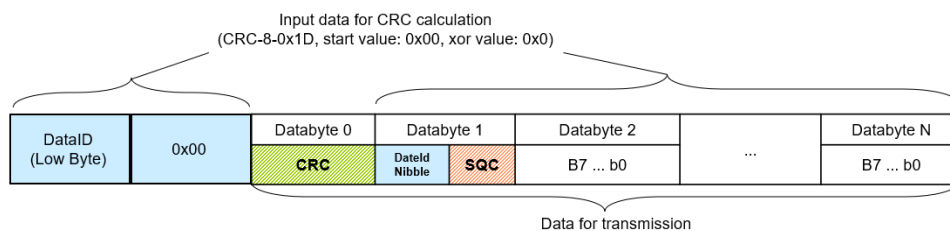

Figure 3.4. Layout of the protected message including control data (CRC, SEQ) with explicit transmission of data ID nibble (`dataIdMode=3`)
- ▶ **Explicit transmission of data ID nibble** (`dataIdMode=3`): Both bytes of the 16-bit data ID are attached to the safety data for CRC calculation, but the low nibble of the high byte of the data ID is explicitly transmitted. Only 12 bits are used in this 16-bit data ID and the high nibble of the high byte is set to 0. The bit-offset of the data ID nibble value within a transmitted signal group is configurable, but must be aligned with respect to nibbles. To be able to use this data ID inclusion mode together with the data ID inclusion mode **Both bytes**, the CRC is calculated over the low byte of the data ID and the high byte which is set to 0. For more information on explicit transmission of data ID nibbles, see [Figure 3.4, “Layout of the protected message including control data \(CRC, SEQ\) with explicit transmission of data ID nibble \(`dataIdMode=3`\)”](#). The constraints specified in ASR\_E2EPW020377 must be adhered to.
Figure 3.4, “Layout of the protected message including control data (CRC, SEQ) with explicit transmission of data ID nibble (`dataIdMode=3`)” shows the layout of the AUTOSAR E2E Profile 1 with a CRC offset of 0 bits and a sequence counter/alive counter offset of 8 bits and a data ID nibble offset of 12 bits as used for `dataIdMode=3`.